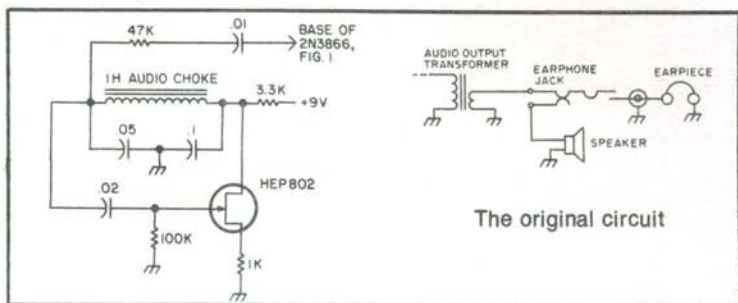

Fig. 3-4. Audio oscillator which can be added to the basic signal generator to aid in identification of the rf signal.
Tone modulation can be added to the generator by the circuit shown in Fig. 3-4. The circuit provides a single frequency tone modulation, which is useful to identify the presence of the rf signal when working with a receiver having only an envelope (AM) detector. By placing the output of the audio oscillator on the gate of the second FET (instead of on the base of the 2N3866 as Fig. 3-4 indicates), a slight FM modulation of the oscillator will occur. So, the signal generator can be utilized with SSB/CW, AM or FM receivers.
For this project you'll need a small transistor radio, a resistor and a capacitor. The modification to the pocket radio involves four steps. First, find the earphone jack and the earpiece and cord that plug into it. Inside, the jack will have three wires connected to it: a ground, a lead to the speaker, and another one trailing off to the innards of the radio somewhere. This last wire actually goes to the secondary winding of the audio output transformer (see Fig. 3-4).